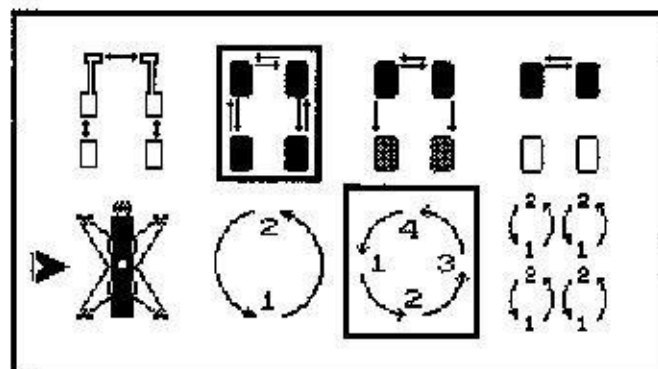

Figure 2-39
1. Follow the instructions under "To Change the Default Runout Mode" in the "Setup" section. The screen shown in Figure 2-39 will appear when 4-Wheel Runout is properly selected.